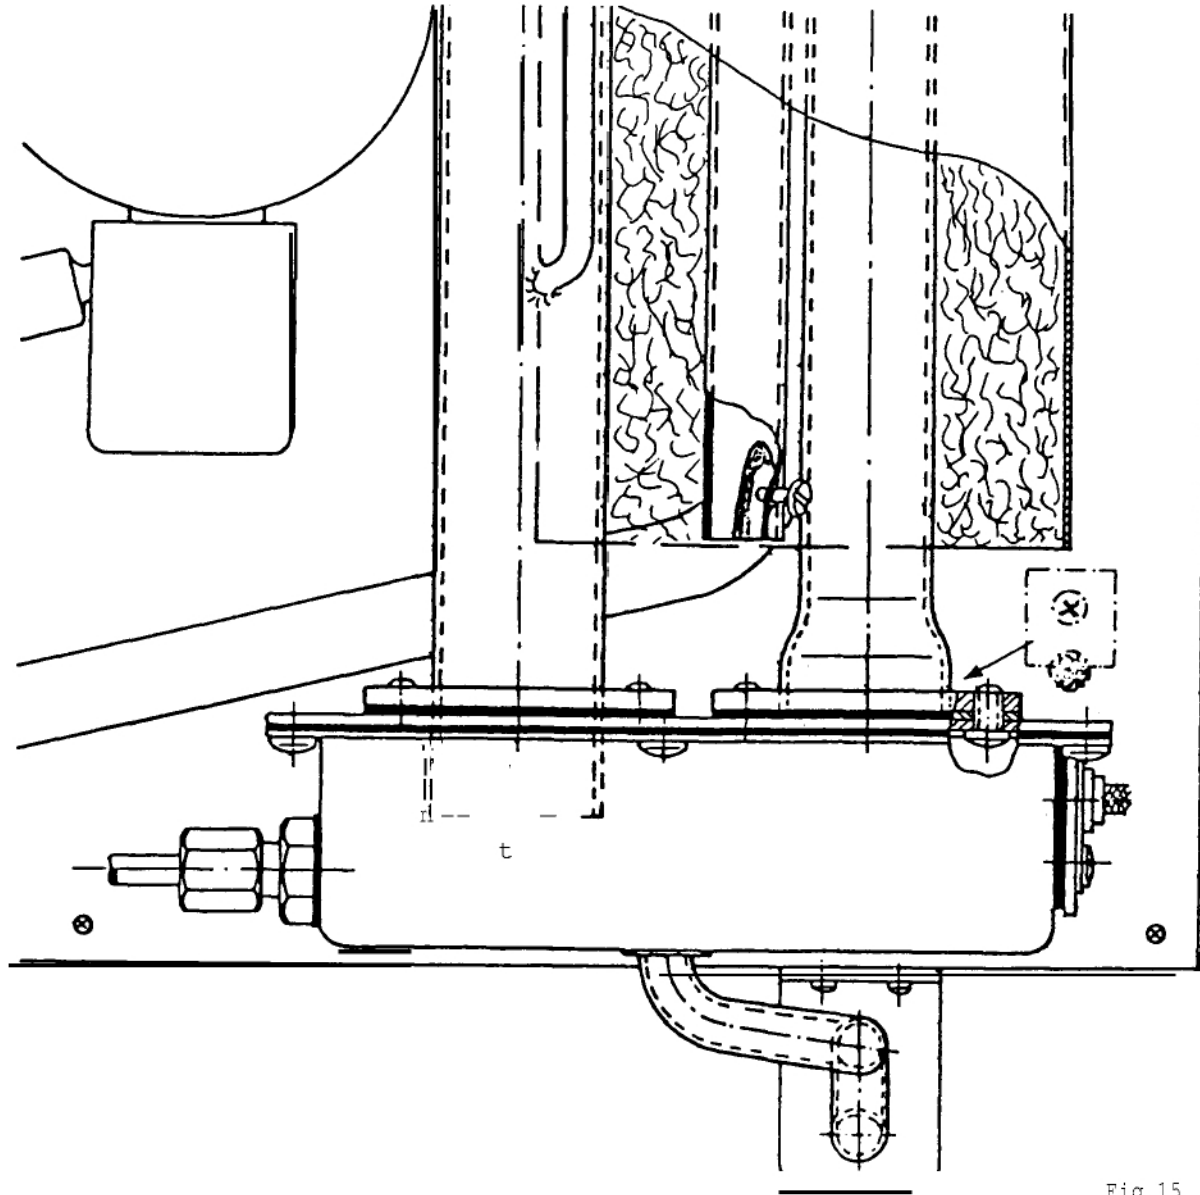

Fig.15
9. Unscrew six screws (A, Fig.15) from the bottom part of gas burner and two screws from support bracket (B, Fig.15) of the drainage tube (C, Fig. 15).
10. Take off bottom part of burner with thermocouple, gas pipe and spark ignitor with cable from upper part of burner (D, Fig.15) by withdrawing to the right side .
11. Unscrew upper part of gas burner (D, Fig.15) with air inlet pipe (E, Fig.15) from the gas heating pipe (F, Fig.15) (2 screws G, Fig. 15).
12. Unscrew locking plate from pilot sight peep (H, Fig.15).
13. Unscrew eight screws (I, Fig. 15) from the cooling unit attachment panel and take cooling unit out of the cabinet.